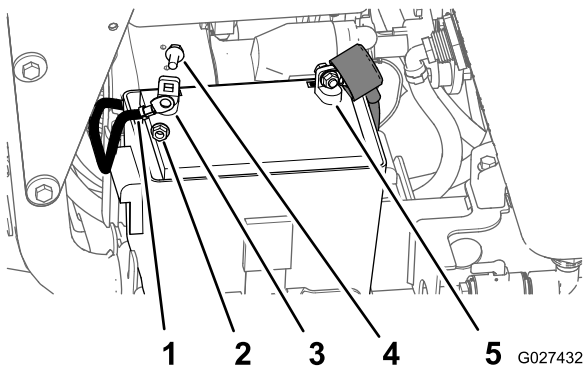

Figure 73
3. Remove the hex-flanged head bolt and flanged nut from the negative battery cable and negative (-) battery terminal, and remove the cable from the battery (Figure 73).
4. Slide the red terminal cover off the positive battery terminal (Figure 73).
5. Remove the hex-flanged head bolt and flanged nut from the positive (red) battery cable and the positive (+) battery terminal, and remove the cable from the battery (Figure 73).
3. Install the positive (red) battery cable to positive (+) battery terminal with a flanged bolt and flanged nut (Figure 73).
5. Install the negative battery cable to the negative (-) battery terminal with a flanged bolt and flanged nut (Figure 73).